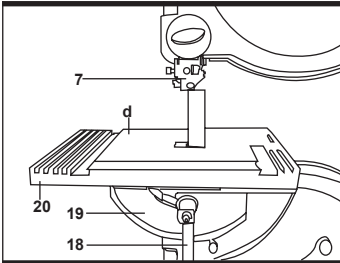

Fig 9
1) Undo the fixing handle (18).
2) Turn the setting wheel (12) to lower the band guide (7) as close as possible to the workpiece to be cut. The gap should be approx. 2-3 mm.
3) Re-tighten the fixing handle (18).
6. Adjusting the work table (20) to 90° (See Fig9 & 10)